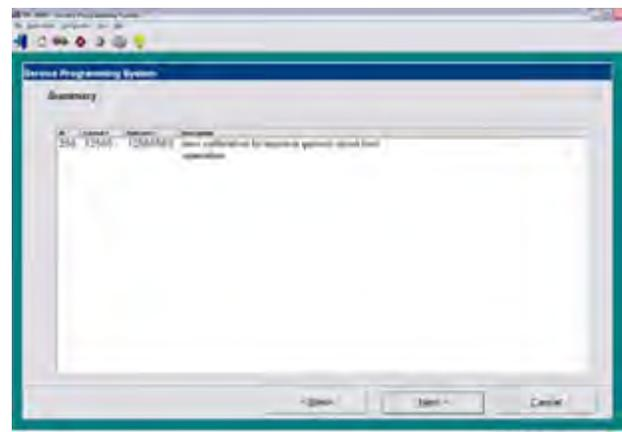

Figure 2.22: Summary Window
- c Click the **Next** button to continue. This displays the Summary window (Figure 2.22).